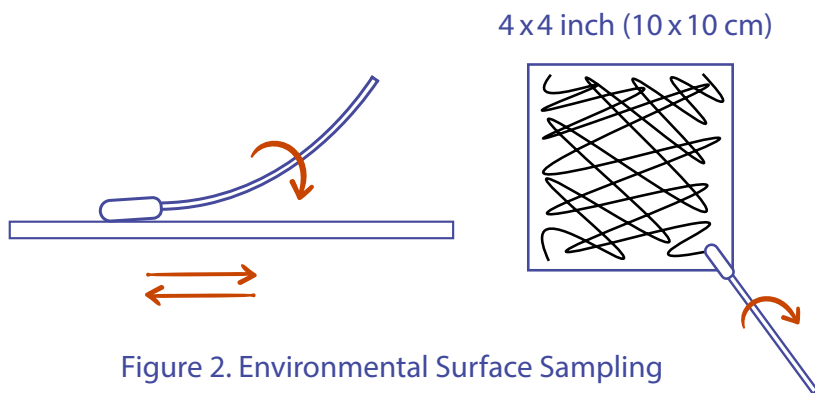

Figure 2. Environmental Surface Sampling
8.1.2. Collect a surface sample by swabbing a 4 x 4 inch (or 10 x 10 cm) area using a rolling crosshatch technique shown in **Figure 2**. Ensure that all sides of the swab bulb come into contact with the surface.